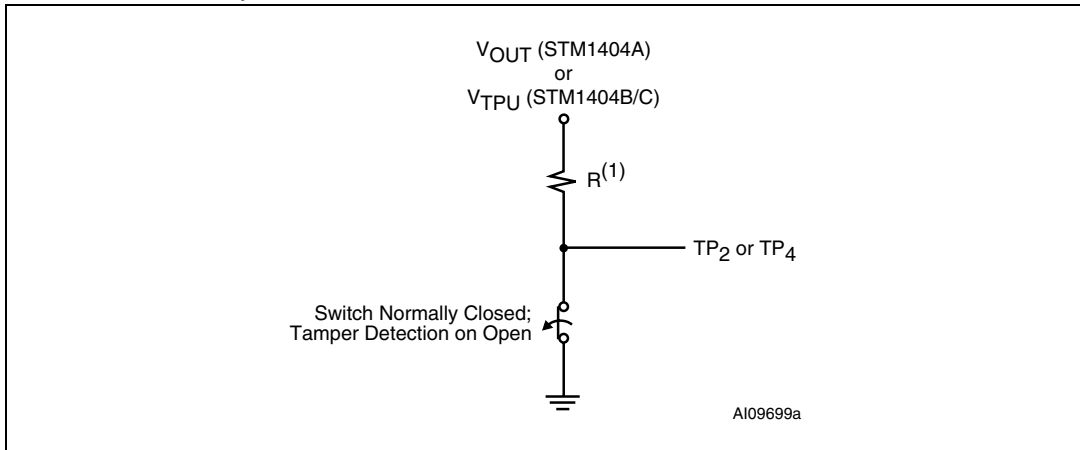

**Figure 6. Tamper pin (TP1 or TP3) normally high (NH) external hookup (switch open)**
Physical tamper detect pin set normally to high (NH). They are connected externally through a closed switch or a high-impedance resistor to  $V_{\text{OUT}}$  (in the case of STM1404A) or  $V_{\text{TPU}}$  (in the case of STM1404B/C). A tamper condition will be detected when the input pin is pulled low (see Figure 5 and Figure 6 on page 10). If not used, tie the pin to  $V_{\text{OUT}}$  (for STM1404A) or  $V_{\text{TPU}}$  (for STM1404B/C).
TP1 and TP3 are set normally to high (NH). They are connected externally through a closed switch or a high-impedance resistor to VOUT (in the case of STM1404A or STM1404A) or VTPU (in the case of STM1404B/C). A tamper condition will be detected when the input pin is pulled low (see Figure 5 and Figure 6 on page 10). If not used, tie the pin to VOUT or VTPU.